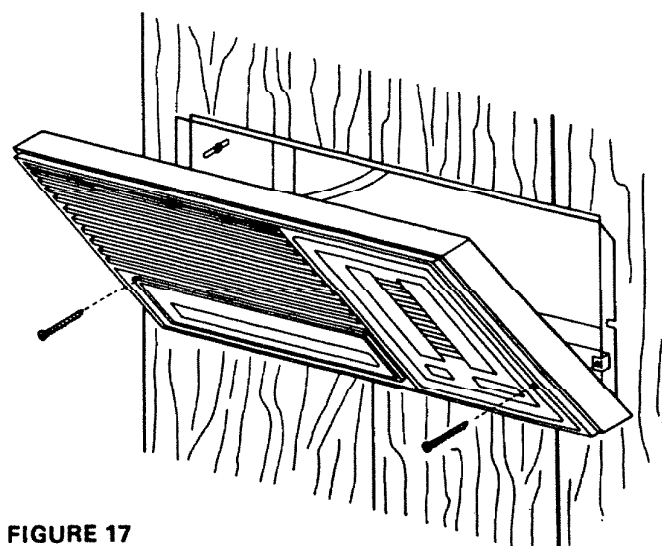

FIGURE 17
5. Secure master panel to rough-in mounting brackets with two provided No. 6 x 3/4" screws. See Figure 17.